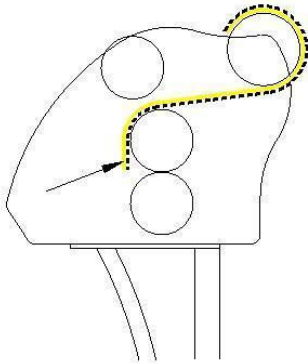

Figure 13
- Unroll the film on the top supply shaft, so that an adequate length is hanging over the top roller (see figures 13 & 14). If necessary, release the supply shaft brake.